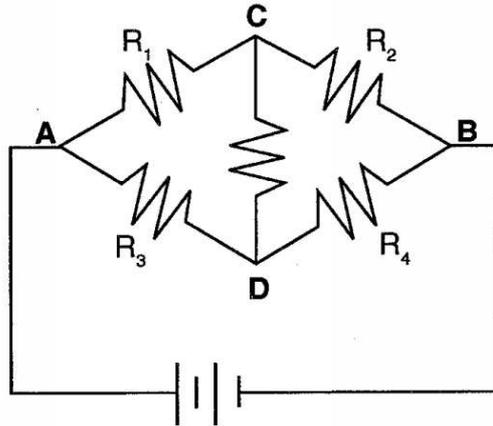

Figure 14.20: The Circuit for Kirchhoff's Rules
1. Connect the circuit shown in Figure 14.20 using any of the resistors you have except the 10Ω one. Record the resistance values in Table 14.11. With no current flowing (the power supply is off), measure the total resistance R_T of the circuit between points **A** and **B**.
2. With the circuit connected to the Power Supply and the current flowing, measure the voltage across each of the resistors and record the values in the table. On the circuit diagram in Figure 14.20, indicate which side of each of the resistors is positive relative to the other end by placing a "+" at that end.